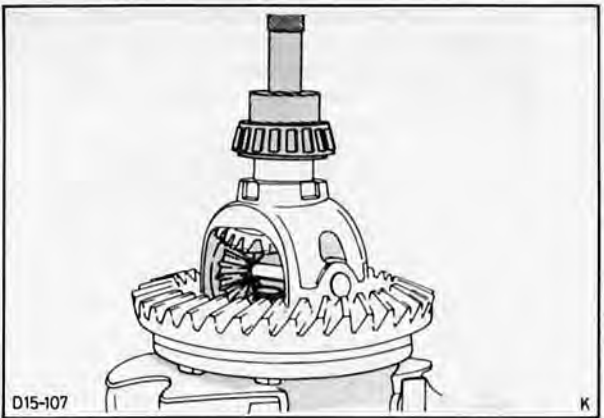

Fig. 119. Fit taper roller bearing with special tool no. 15-025A
29. Fit taper roller bearing with chosen shim on drive pinion, Fig. 119.